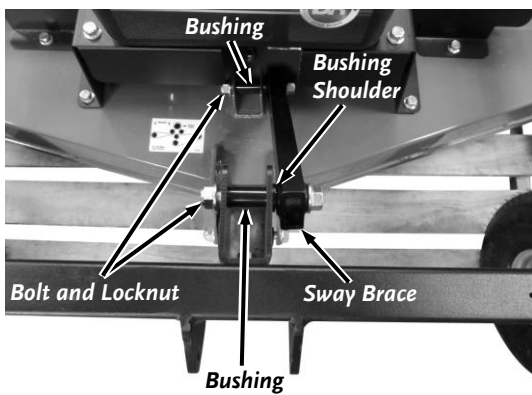

Figure 11
7. Install the Bushing from the Product Pack into the Bracket at the front of the Frame with the long portion of the Bushing fully into the Frame Bracket (**Figure 11**). The Bushing shoulder should be tight against the Bracket.